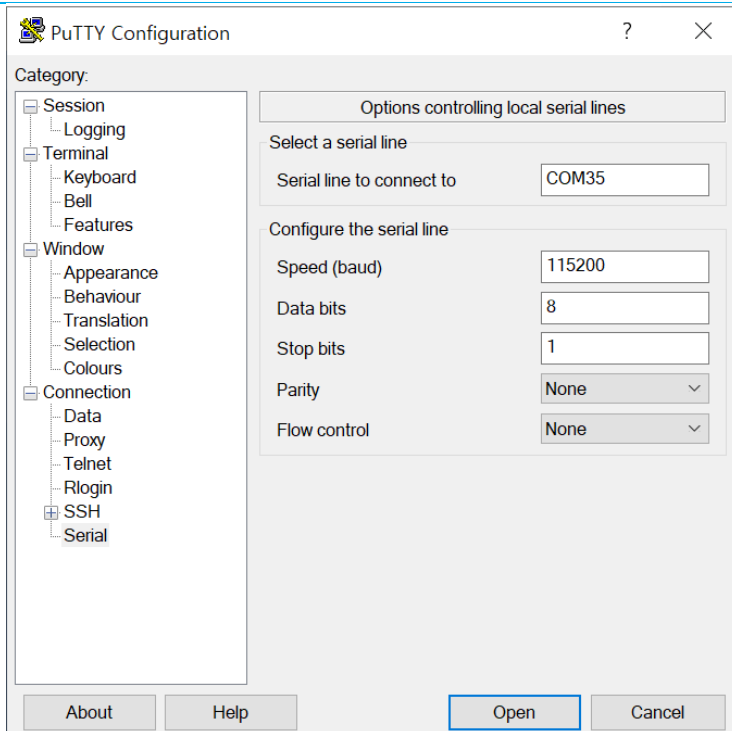

Figure 3.4 Putty Configuration Settings
8. At the BB Shell login prompt shown in Figure 3.4, log in with the Default password.